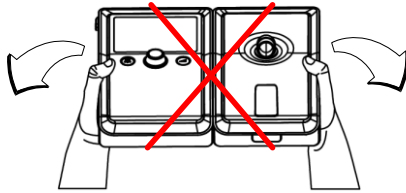

Fig. 4-4
- Do not move the connected unit upwards or downwards while pulling the devices apart (see Fig. 4-4). It could cause damage to the devices.